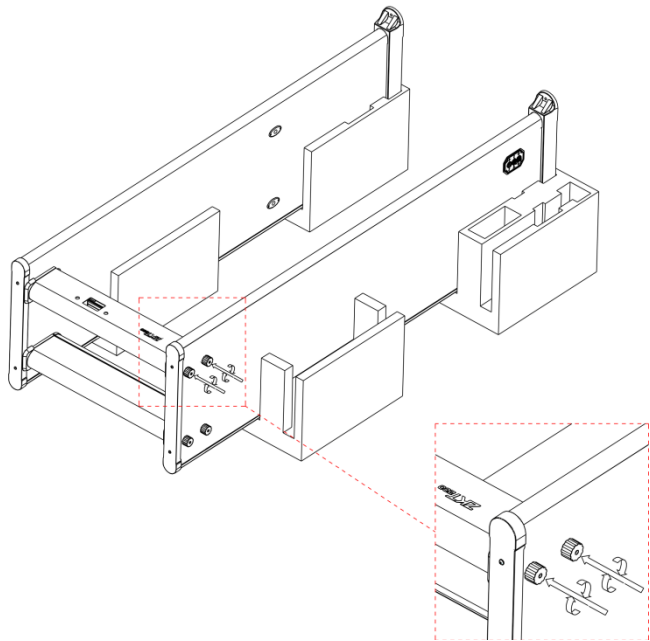

Figure 3-5
Step 4: Connect the front beam with the left and right door panels with bolts and tighten 8 bolts, as shown in the figure 3-5 below.